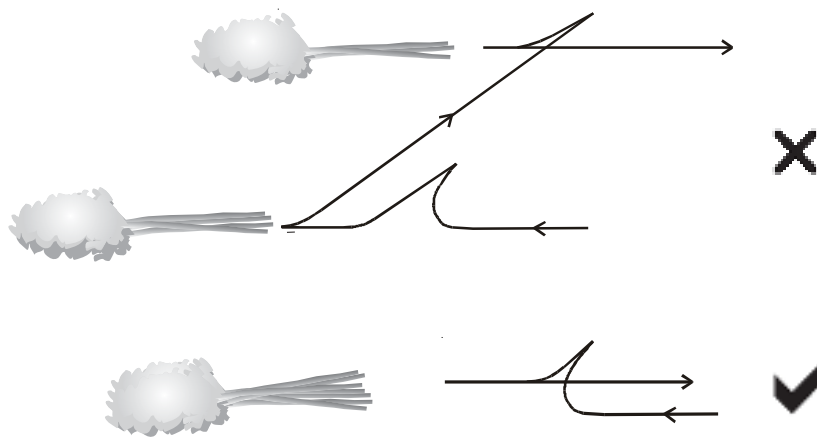

Figure 28. Feller-buncher operators should optimize bunch size to minimize travel required by skidders to build a load.
- Make the bunches the optimum size for the skidder (Figure 28). Bunches that are too small or too large cause the skidder to make more turns than necessary.